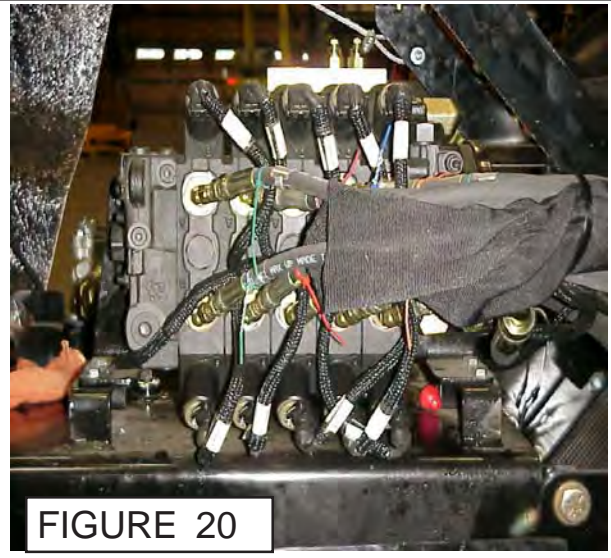

FIGURE 20
- 4. Wire Harness Terminal Installation.** You will need to feed wire harness under the fitting of hoses to valve. (See Figure 20 & 21) lay the Plugs out in the Order they are to be installed starting at the far end terminal.